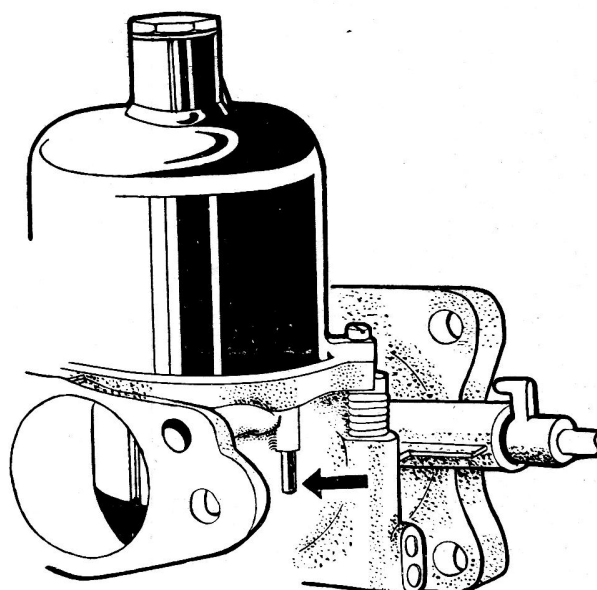

Fig.3.30. The piston lifting pin
- 10 Now refer to Fig.3.30 and check the mixture strength by lifting the piston of the front carburettor approximately $1/32"$ (0.8 mm) by means of the lifting pin (arrowed), if:-
14 Check the mixture strength of the front carburettor (see Fig.3.30) by raising the piston about 1/32" by means of the lifting pin, if:-